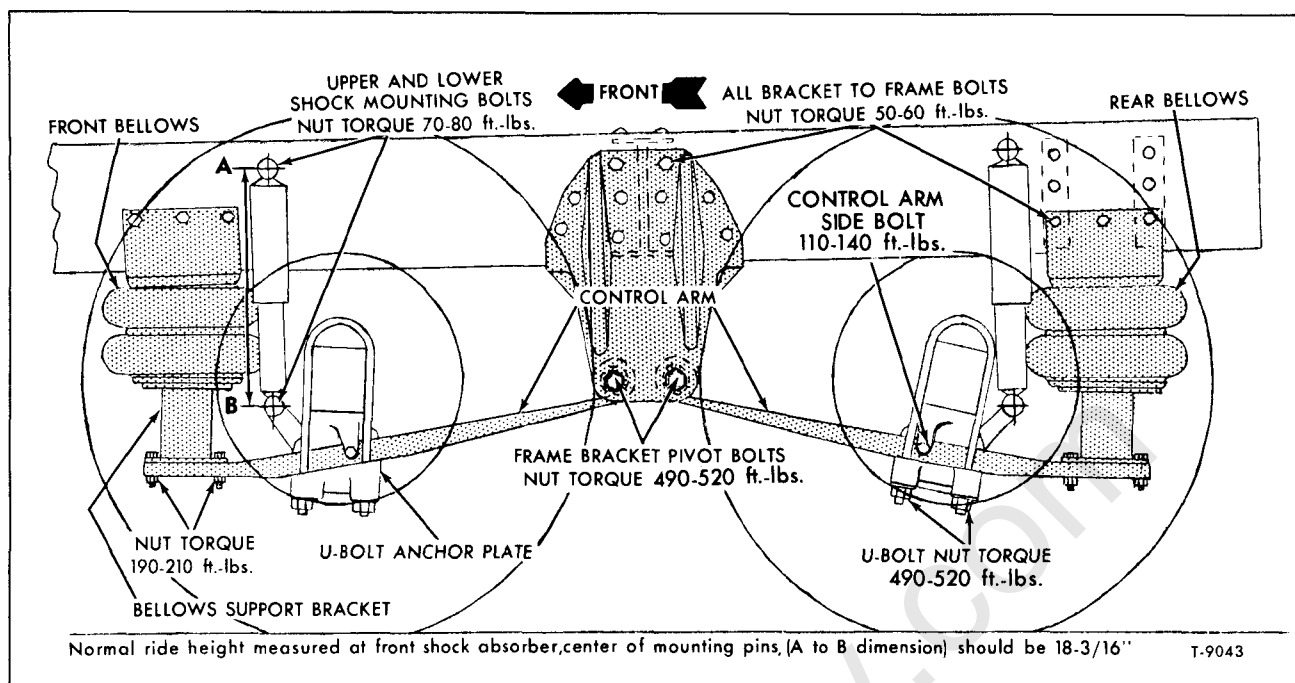

Figure 4—Air Suspension System
Control arms as shown in figure 4 are equipped with replaceable rubber bushings which attach rear axle to frame brackets. Control arms are secured to axles by U-bolts and anchor plates. A Delrin liner is used on top and bottom of control arms at the axle housing. Control arms are secured to bellows support brackets by bolts and nuts, and by pivot bolts at center frame bracket.
4. Establish vehicle at normal ride height by jacking up frame. Refer to dimension "A" to "B" in figure 4.
3. Remove lubrication fitting from end of shackle pin. Remove pin using slide hammer (J-2619) and adapter (J-8118) as shown in figure 4 on page 4-27 of 1970 Heavy Duty Truck Service Manual ST135-70.